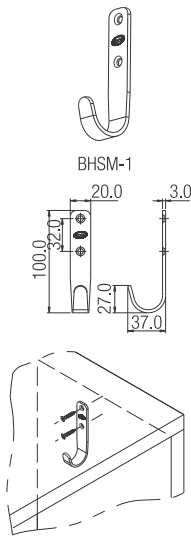

Fig.1
1. Drill hole Ø5mm on side wall of desk as shown in fig.1
3. Fit the Bag Hook onto the desk with the help of screw as shown in fig.1 & 2.